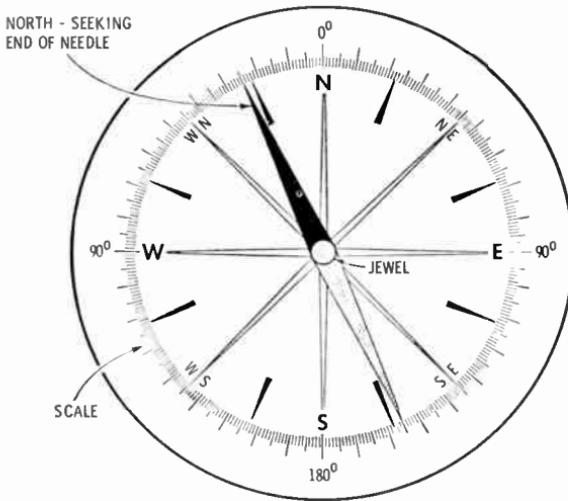

Fig. 3. A typical compass card.
One of the two ends of a compass needle points north and the other south; they are called poles. One is called the north-seeking pole (N) and the other the south-seeking pole (S). A typical compass is shown in Fig. 3.